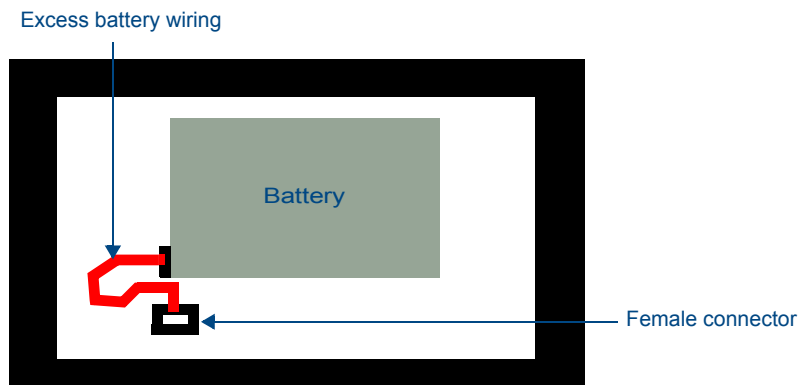

FIG. 88 Battery installation and connection diagram
4. Disconnect and remove the old battery from the female connector (FIG. 88).
6. Install the new battery, making sure that the label faces outward and the battery connector wiring runs to the left (FIG. 88). Make sure that the excess battery wiring fits in the space to the bottom left of the battery.